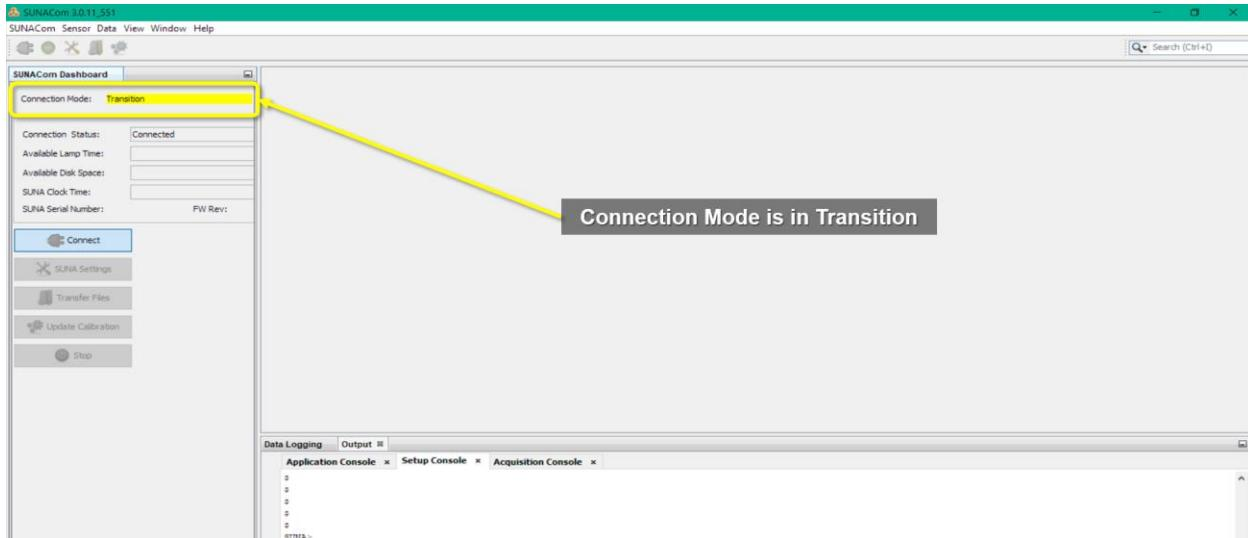

Figure 108. Connection to SUNA is in Transition
7. The **Connection Mode** under the **SUNACom Dashboard** tab in the upper left hand corner of the window changes to yellow and the “**Setup Console**” tab starts displaying characters (see Figure 108).